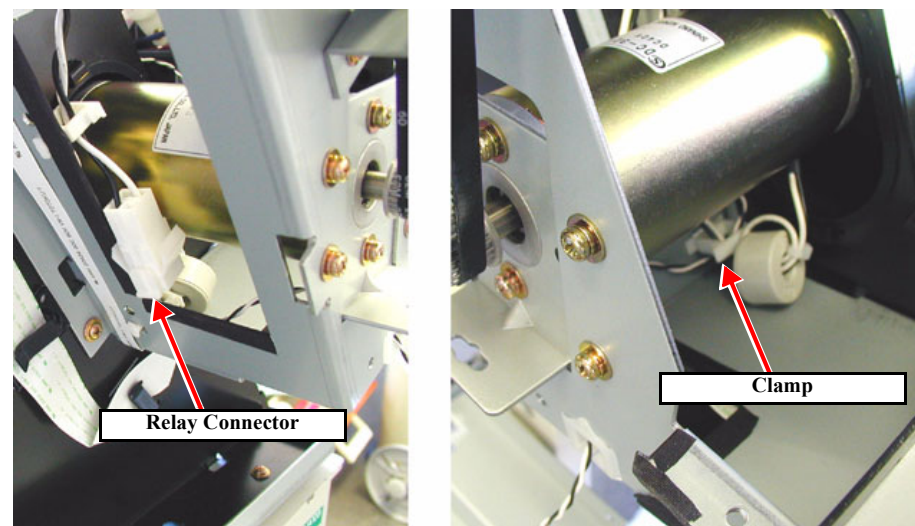

Figure 4-50. Removing the PF Motor ASSY Harness Connector.
2. Disconnect the one connector cable of the PF Motor ASSY and take it out through the hole in the L Side Frame. (See Figure 4-50)